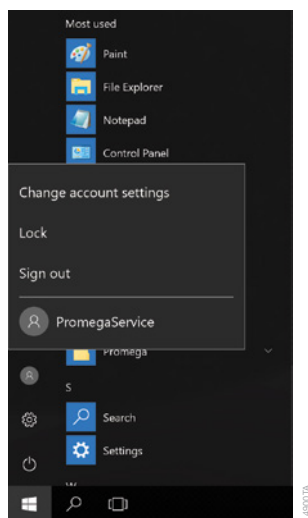

Figure 70. Power options popup. Selecting the **Power** button from the Start menu opens this popup, which presents options for managing the PC power state.
3. Select the **Power** icon to open the Power menu (Figure 70).